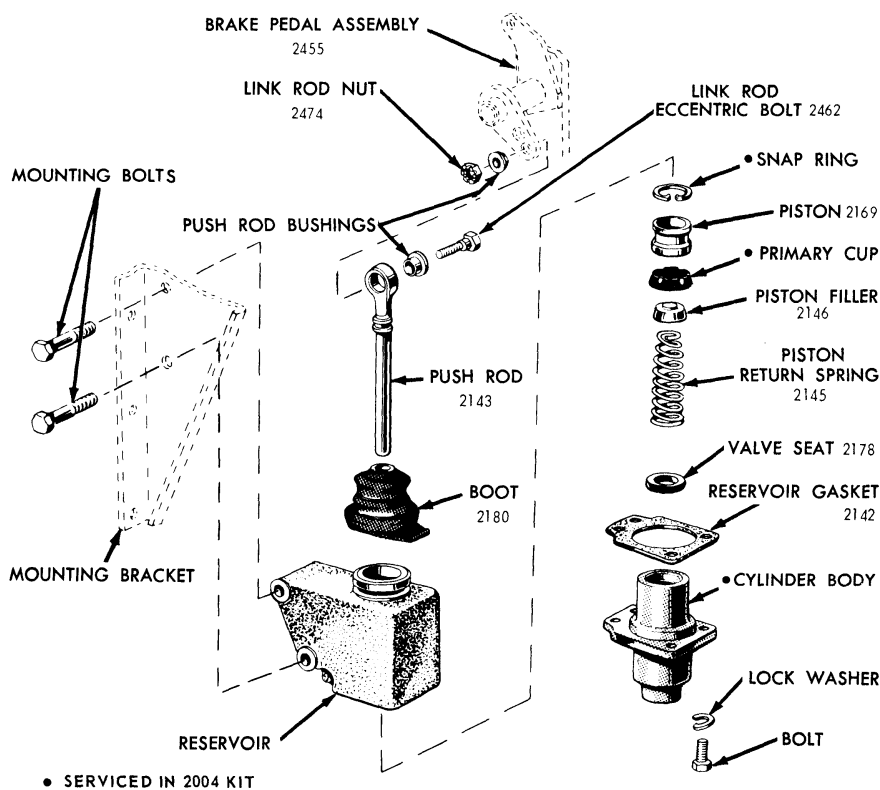

FIG. 13 C-Series Single Brake Master Cylinder — Disassembled
1. With the master cylinder removed, clean the outside of the master cylinder, and remove the filler cap and gasket. Pour out any brake fluid that may remain in the cylinder and reservoir. On a C-Series Truck master cylinder (Fig. 13), remove the 4 bolts that hold the cylinder body on the reservoir, and remove the gasket. Press down on the